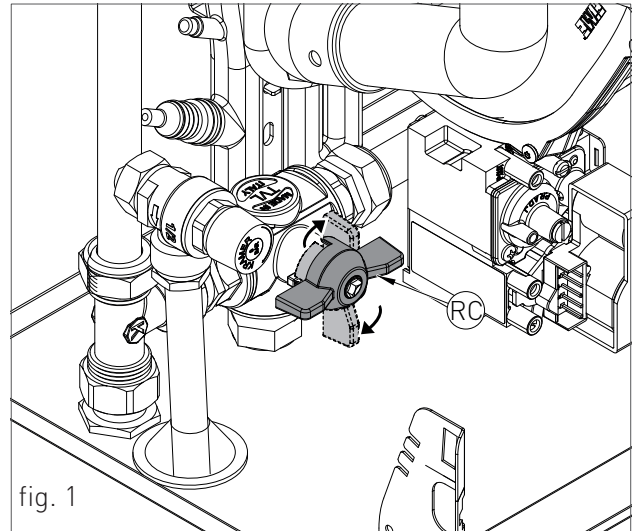

fig. 1
- > turn the diverter valve onto the position "recirculation", as shown 'RC' in figure 1.
- › Turn the three-way valve to the “recirculation” position, as shown in Figure 1 as ‘RC’.